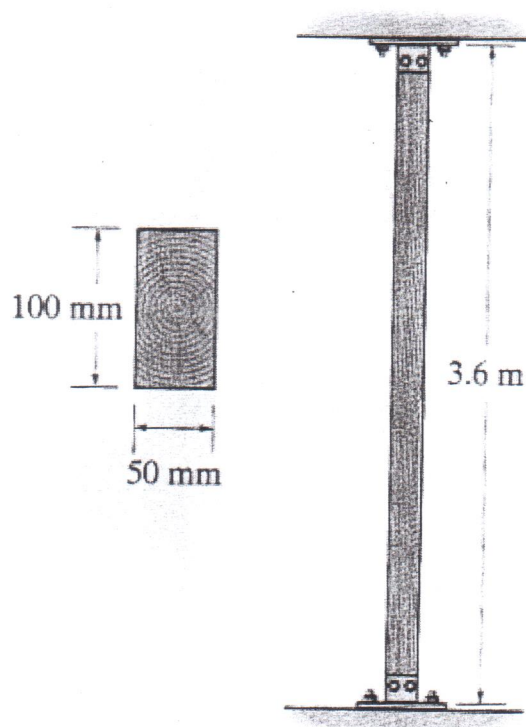

Figure 1.
- (1) A 1.25 m long rod is made from a 25 mm diameter steel rod. Determine the critical buckling load if the both ends are fixed supported. $E = 200$ GPa.
- (2) A 3.6 m long wooden rectangular column has the dimensions shown in **Figure 1**. Determine the critical load if the both ends are assumed to be fixed supported. $E = 12$ GPa.